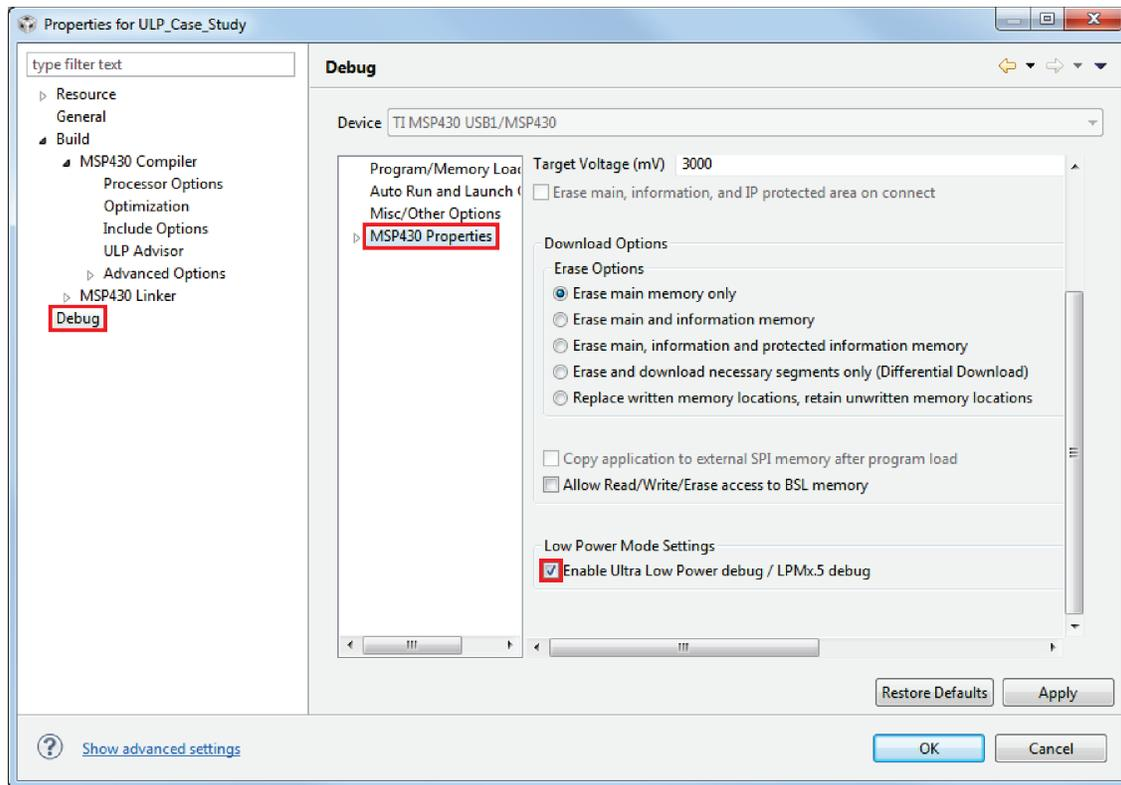

Figure 9. Enable ULP Debug
- Scroll down and check the box for *Low Power Mode Settings* next to *Enable Ultra Low Power debug / LPMx.5 debug* (see Figure 9).